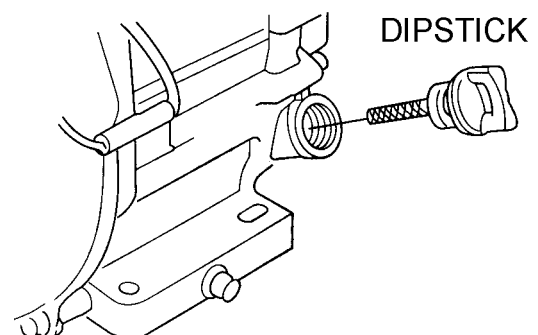

Figure 14. Engine Oil Dipstick Removal
2. Remove the dipstick from the engine oil filler hole (Figure 14) and wipe clean.